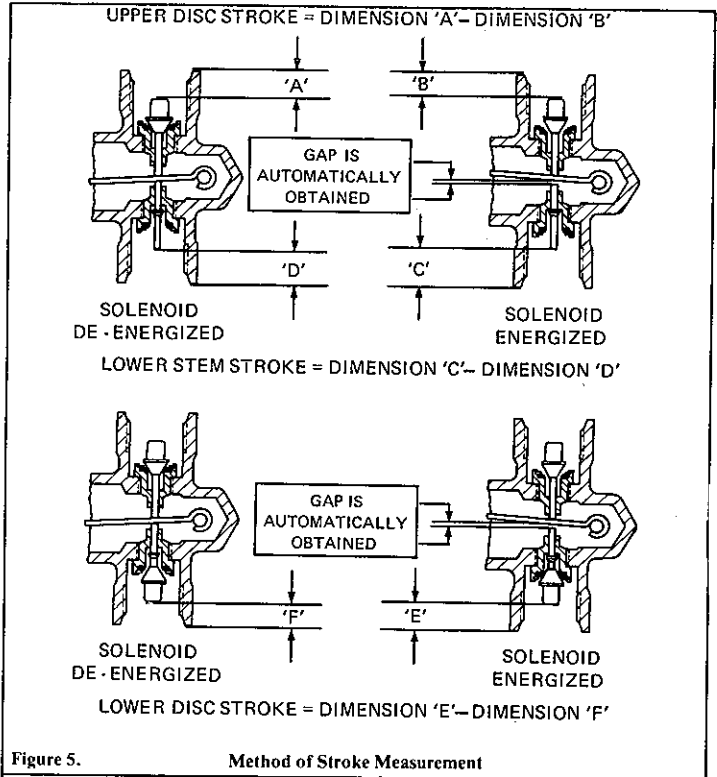
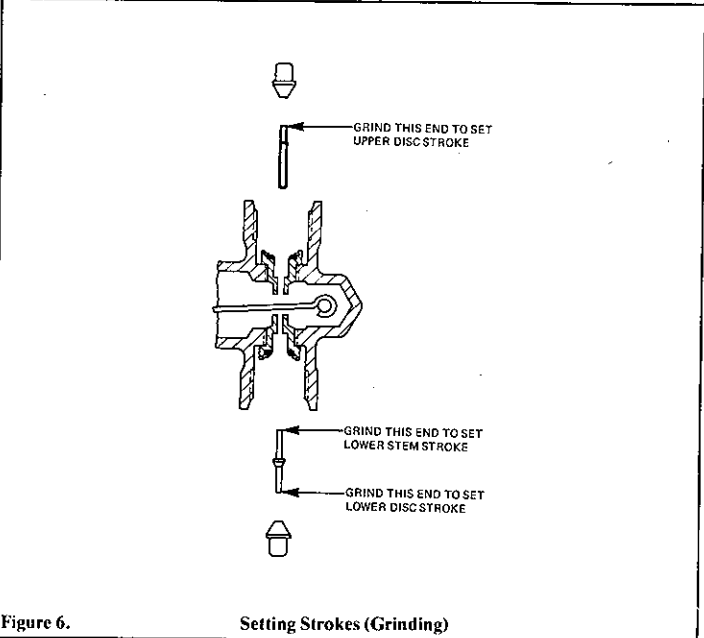

Figure 5. Method of Stroke Measurement
Figure 6. Setting Strokes (Grinding)
- New upper and lower seats and discs cannot be installed without making some minor adjustments. It is important that the stroke of the valve discs be set carefully in order to obtain the proper orifice opening and reliable operation of the valve. Check valve nameplate for the catalog number and refer to "Stroke Chart", Form No. V5940 for stroke setting requirements. Refer to Figure 5 for the method of measuring the stroke and Figure 6 for stroke setting (grinding). Spaces are provided on this sheet for your calculations.
- Place the valve in a vertical and upright position. NOTE: Solenoid and core/spring sub-assembly or core must be assembled in the valve when strokes are measured. Install upper disc stem (large diameter first and valve disc). Use a depth gauge to measure the distances. NOTE: Upper disc stem is a straight stem while the lower disc stem has a built-in stop. Refer to Figure 6.
- With valve de-energized, measure Dimension "A." Dimension "A" is from the top of the valve body to the top of the upper disc as illustrated in Figure 5.
- With valve energized, measure Dimension "B." Dimension "B" is from the top of the valve body to the top of the upper disc as illustrated in Figure 5.
The differences between the two distances "A" minus "B" is the upper disc stroke. If the stroke is more than can be allowed in the "Stroke Chart" Form No. V-5940 (according to catalog number and body type), the end of the upper disc stem (small diameter end) which contacts the upper valve disc, (see Figure 6) must be ground off until the proper stroke is obtained. After grinding, the end of the disc stem must be chamfered slightly.
The difference between the two distances "E" minus "F" is the lower disc stroke. If the stroke is more than that allowed in the "Stroke Chart," Form No. V-5940 (according to catalog number and body type) the end of the lower disc stem (small diameter end) which contacts the lower valve disc (see Figure 6) must be ground off until the proper stroke is obtained. After grinding, the end of the disc stem must be chamfered slightly.
- When the strokes have been set in accordance with Figure 5 and the "Stroke Chart," Form No. V-5940 a gap will automatically be obtained between the lower disc stem and the lever when the solenoid is energized. This gap will assure proper operation of the valve.